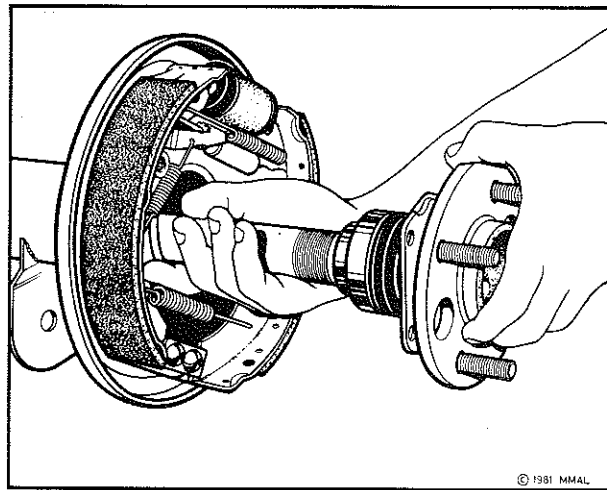
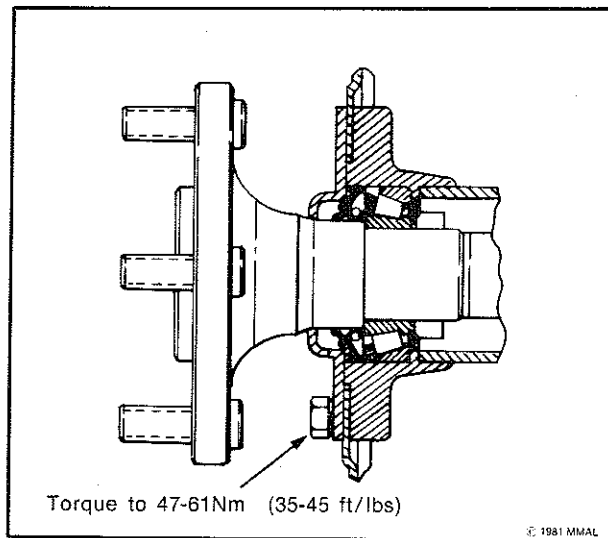

Fig. 5—Replacing axle shaft
Fig. 6—Axle shaft in assembled condition
- (3) Carefully insert the axle shaft into the housing and engage the drive shaft splines, refer Fig. 5.
- (4) Wipe off any surplus lubricant to prevent brake contamination then commence to start the bearing and seal into the housing.
- (5) Correctly install the bearing retainer plate and push the axle, bearing and seal into its seated position.
- (6) Install the retaining bolts (refer Fig. 6) and using a tension wrench, tighten evenly to 20 Nm (15 lbs. ft.). Finally tighten evenly to 47 Nm (35 lbs. ft.), this will prevent distortion of the plate and seal.